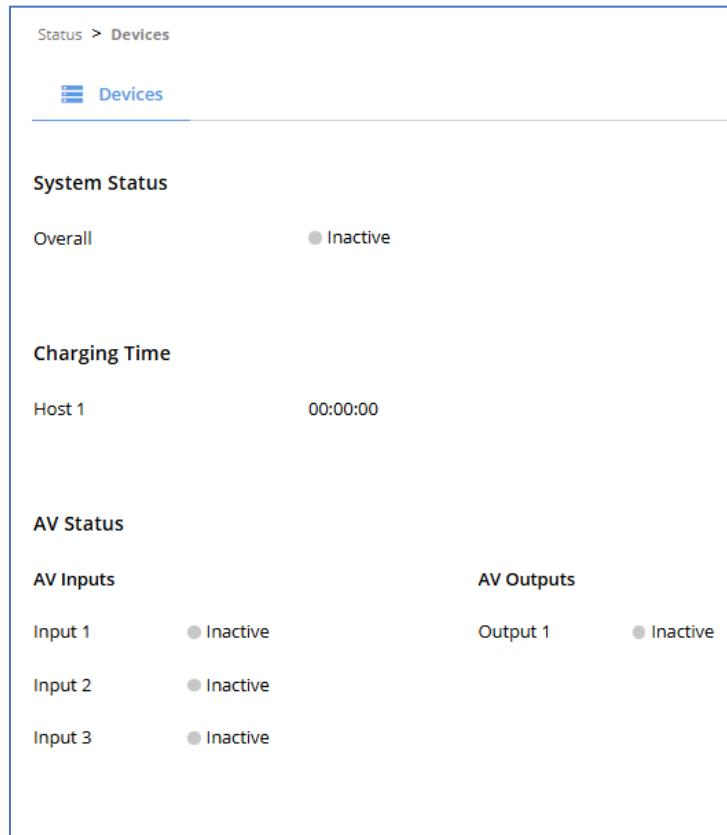

Figure 47: Device Status Page
4. If needed, select modulation method by pressing **M** on Rx IR 1 cell (see (Figure 47)).